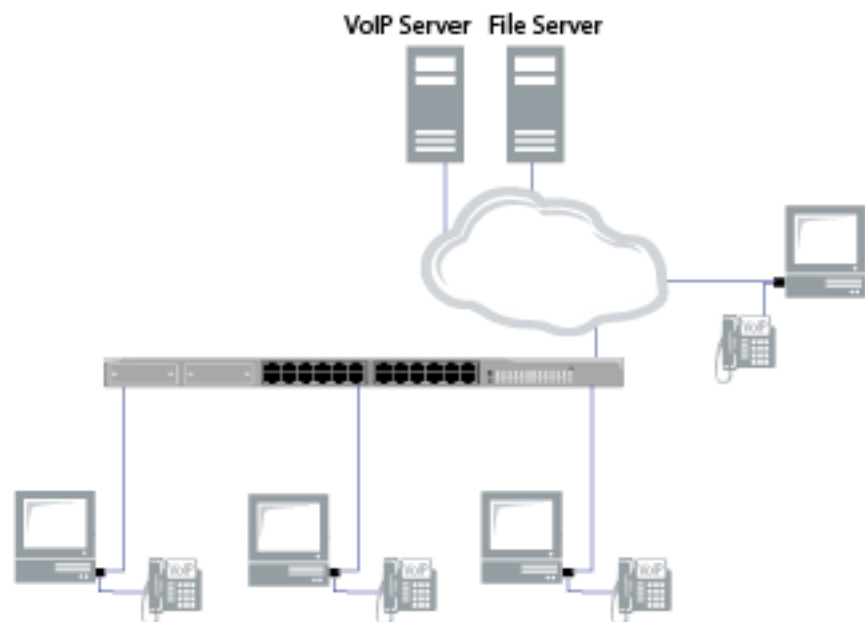

Figure 2. Configuration Example
The AT-2911GP adapter is designed to connect a computer to the Ethernet network using a fiber optic cable and a Powered Device (PD) such as a Voice over IP (VoIP) phone, Wi-Fi access point, or security camera, using a copper cable. In this setting, the adapter functions as a bridge between the fiber port and copper port. Figure 2 on page 15 illustrates an example of a topology with VoIP phones.
To use the AT-2911GP adapter to connect a VoIP phone as shown in Figure 2, you must install the AT-MUX utility as well as driver software. The AT-MUX utility bridges frames between the fiber optic port and copper port. To install AT-MUX utility, see Chapter 4, “Installing the AT-MUX Utility” on page 63.
To configure a VoIP phone system as shown in Figure 2, see Chapter 5, “Configuring a VoIP Phone System” on page 75.